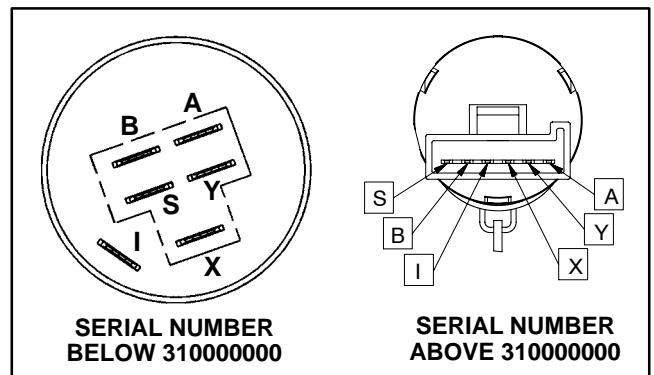

Figure 24
B. With the use of a multimeter (ohms setting), the switch functions may be tested to determine whether continuity exists between the various terminals for each switch position. The ignition switch terminals are marked as shown in Figure 24. The circuitry of this switch is shown in the chart below. Verify continuity between switch terminals.